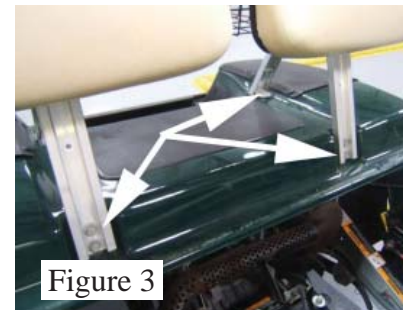

Figure 3
2. Remove the 1/2" bolts holding the seat back and sweater basket struts to the body. (See Figure 3 & 4).